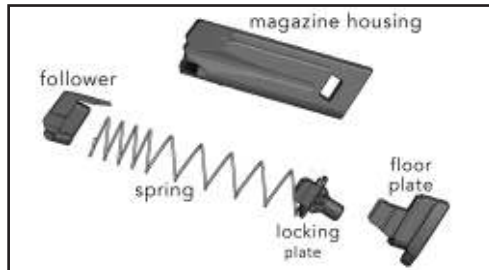

Figure 37
5. Remove the locking plate, magazine spring, and magazine follower from the magazine body. Figure 37 shows all the magazine components for 10-round magazines.